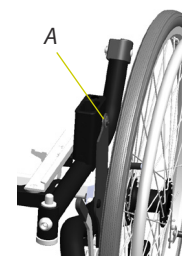

Fig 4
5. Remove the screws (A, figures 4 and 5) that hold the seat frame in place.